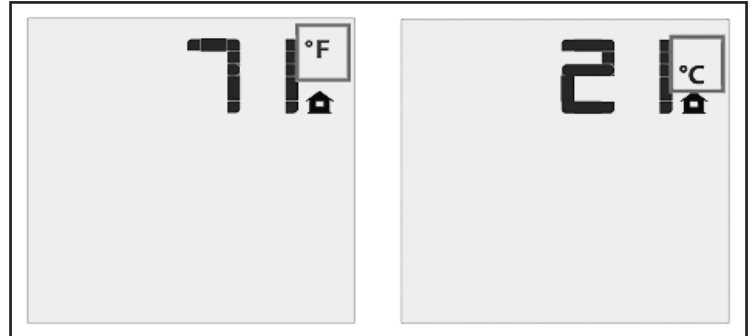

Figure 8: Remote Control Display in Fahrenheit and Celsius.
3. Remove the two (2) screws (located on the outside edges of the burner) that hold the burner to the chassis inside the fire box, see Figure 8. Remove the burner tray from the firebox.